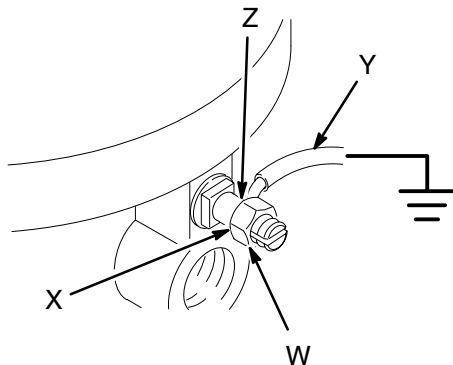

Fig. 2
1. *Fluid Pump (not provided)*: use a ground wire and clamp. See Fig. 2. Loosen the grounding lug locknut (W) and washer (X). Insert one end of a 12 ga (1.5 mm²) minimum ground wire (Y) into the slot in lug (Z) and tighten the locknut securely. Connect the other end of the wire to a true earth ground. For a ground wire and clamp, order Part No. 237569.